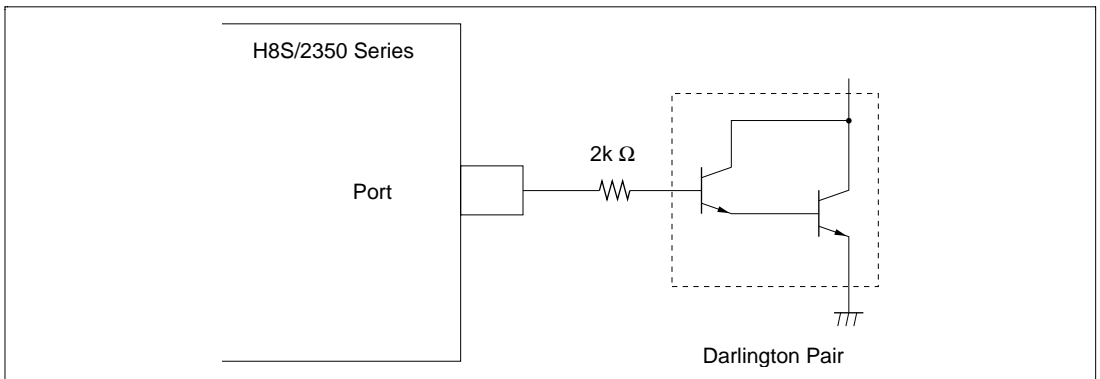

Figure 21-1 Darlington Pair Drive Circuit (Example)
2. When driving a darlington pair or LED directly, always insert a current-limiting resistor in the output line, as show in figures 21-1 and 21-2.